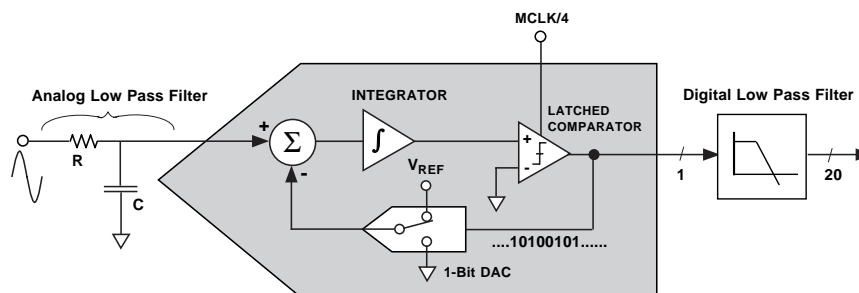
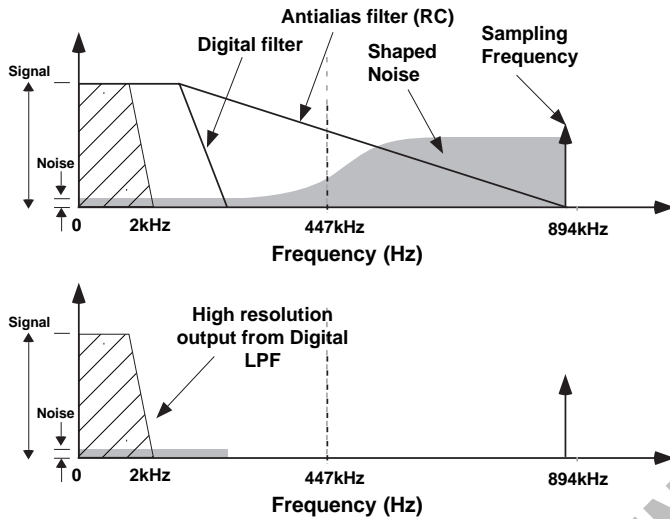
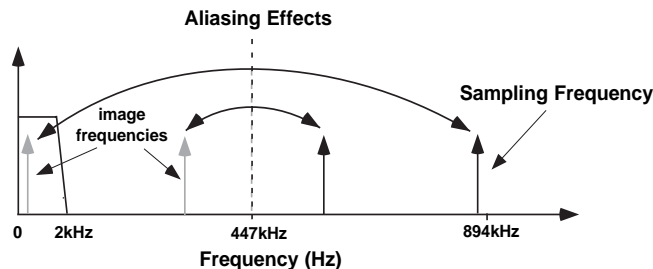

Figure 18– First Order Sigma-Delta (Σ - Δ) ADC
Figure 19—Noise reduction due to Oversampling & Noise shaping in the analog modulator
Figure 20—ADC and signal processing in Channel 1
The analog-to-digital conversion in the AD7756 is carried out using two second order sigma-delta ADCs. The block diagram in Figure 18 shows a first order (for simplicity) sigma-delta ADC. The converter is made up of two parts, first the sigma-delta modulator and secondly the digital low pass filter.
The sigma-delta converter uses two techniques to achieve high resolution from what is essentially a 1-bit conversion technique. The first is over-sampling. By over sampling we mean that the signal is sampled at a rate (frequency) which is many times higher than the bandwidth of interest. For example the sampling rate in the AD7756 is CLKIN/4 (894kHz) and the band of interest is 40Hz to 2kHz. Oversampling has the effect of spreading the quantization noise (noise due to sampling) over a wider bandwidth. With the noise spread more thinly over a wider bandwidth, the quantization noise in the band of interest is lowered—see Figure 19. However oversampling alone is not an efficient enough method to improve the signal to noise ratio (SNR) in the band of interest. For example, an oversampling ratio of 4 is required just to increase the SNR by only 6dB (1-Bit). To keep the oversampling ratio at a reasonable level, it is possible to shape the quantization noise so that the majority of the noise lies at the higher frequencies. This is what happens in the sigma-delta modulator, the noise is shaped by the integrator which has a high pass type response for the quantization noise. The result is that most of the noise is at the higher frequencies where it can be removed by the digital low pass filter. This noise shaping is also shown in Figure 19.
Figure 18 also shows an analog low pass filter (RC) on the input to the modulator. This filter is present to prevent aliasing. Aliasing is an artifact of all sampled systems. Basically it means that frequency components in the input signal to the ADC which are higher than half the sampling rate of the ADC will appear in the sampled signal at a frequency below half the sampling rate. Figure 20 illustrates the effect, frequency components (arrows shown in black) above half the sampling frequency (also known as the Nyquist frequency, i.e., 447kHz) get imaged or folded back down below 447kHz (arrows shown in grey). This will happen with all ADCs no matter what the architecture. In the example shown it can be seen that only frequencies near the sampling frequency, i.e., 894kHz, will move into the band of interest for metering, i.e., 40Hz - 2kHz. This fact will allow us to use a very simple LPF (Low Pass Filter) to attenuate these high frequencies (near 900kHz) and so prevent distortion in the band of interest. A simple RC filter (single pole) with a corner frequency of 10kHz will produce an attenuation of approximately 40dBs at 894kHz—see Figure 19. This is sufficient to eliminate the effects of aliasing.